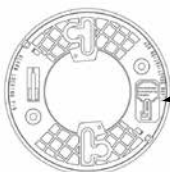

FIGURE 2
2. The alarm deactivation key is located in the mounting bracket of the alarm. See Figure2.